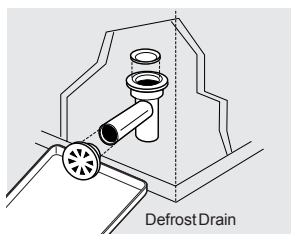
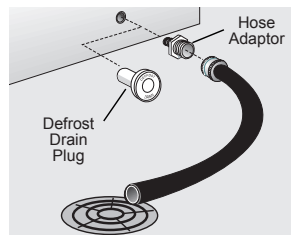
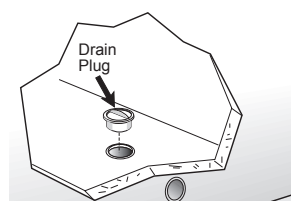

Figure 2
Figure 3
Figure 4
- On chest models with a defrost drain, place a shallow pan beneath the drain outlet (Figure 2). A 1/2 inch garden hose adapter can be used to drain the freezer directly into a floor drain (Figure 3). If your model is not equipped with an adapter, one can be purchased at most hardware stores. Pull out the drain plug inside the freezer, and pull off the outside defrost drain plug (Figure 4).